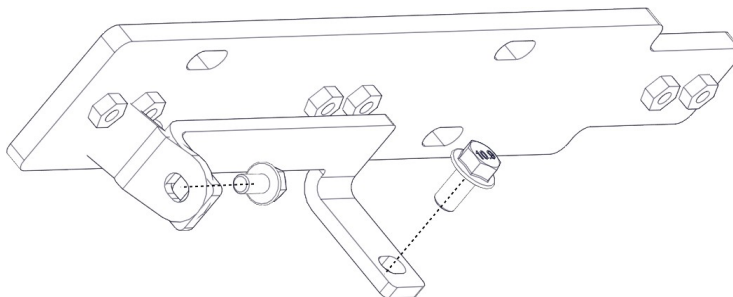

Figure 41.
3. Place the Thermostat housing bracket onto the exhaust manifold and insert and torque down the two bolts (Figure 41.) to 22 ft/lbs.